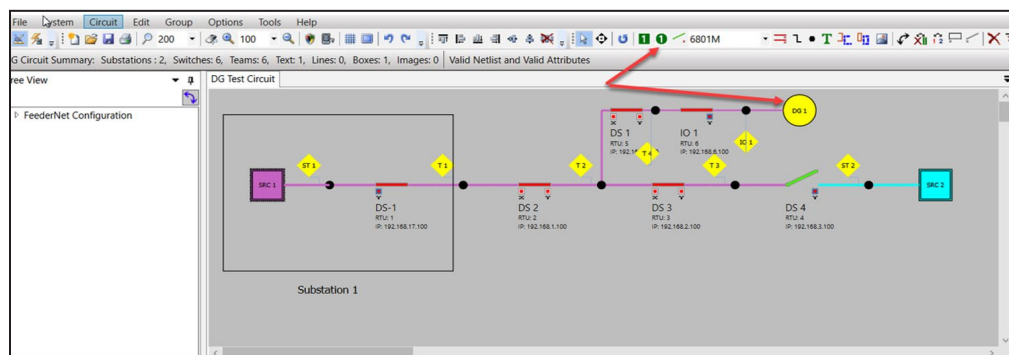

Figure 1. Adding a distributed generation device to the circuit.
STEP 2. Place the distributed generation device on the circuit where it is deployed in the field by selecting the Add DG icon in the drawing area, as shown in Figure 1.